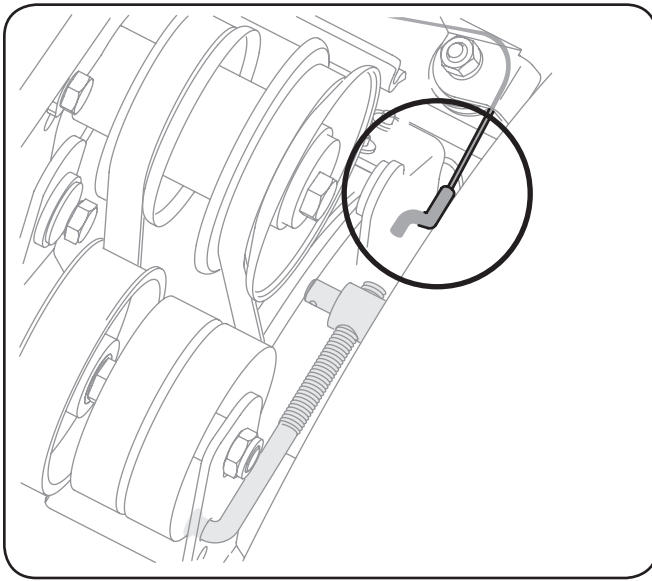

Figure 7-5
3. Pull the brake bracket assembly towards the cable guide roller and unhook the "Z" fitting. Refer to Fig. 7-5.